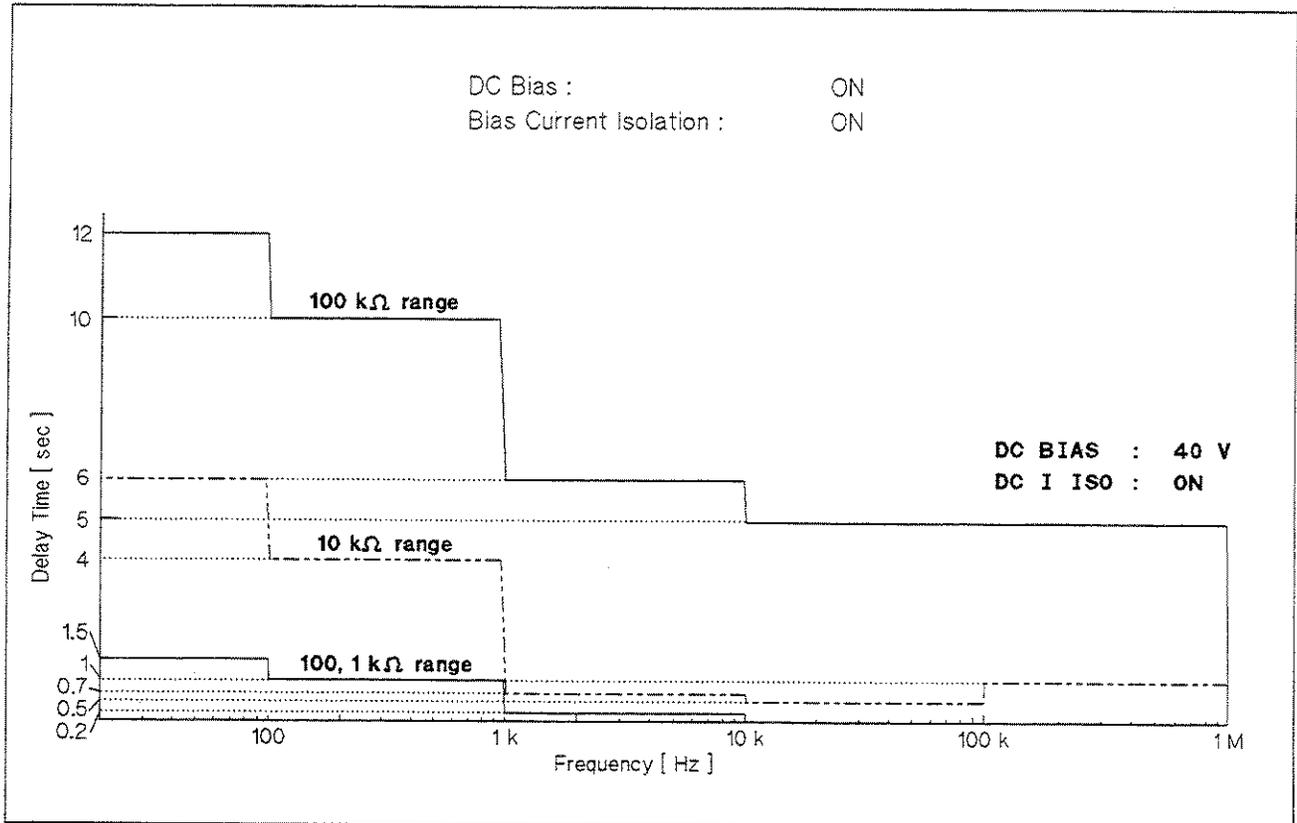

Figure G-8. Short Circuit Recovery Delay Times (3)
2. Use the delay times shown in Figure G-8 to recover from a short circuit under the following conditions.